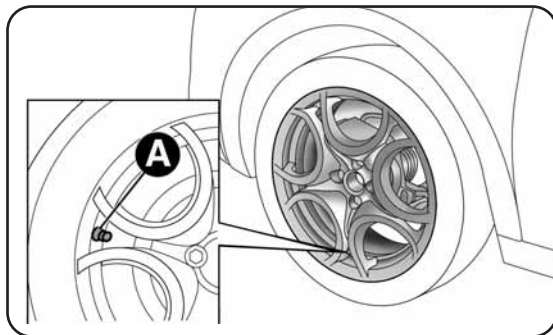

fig. 15
- position the wheel with valve A-fig. 15 facing the direction shown in the diagram. Apply the handbrake and place the kit on the ground near the wheel;